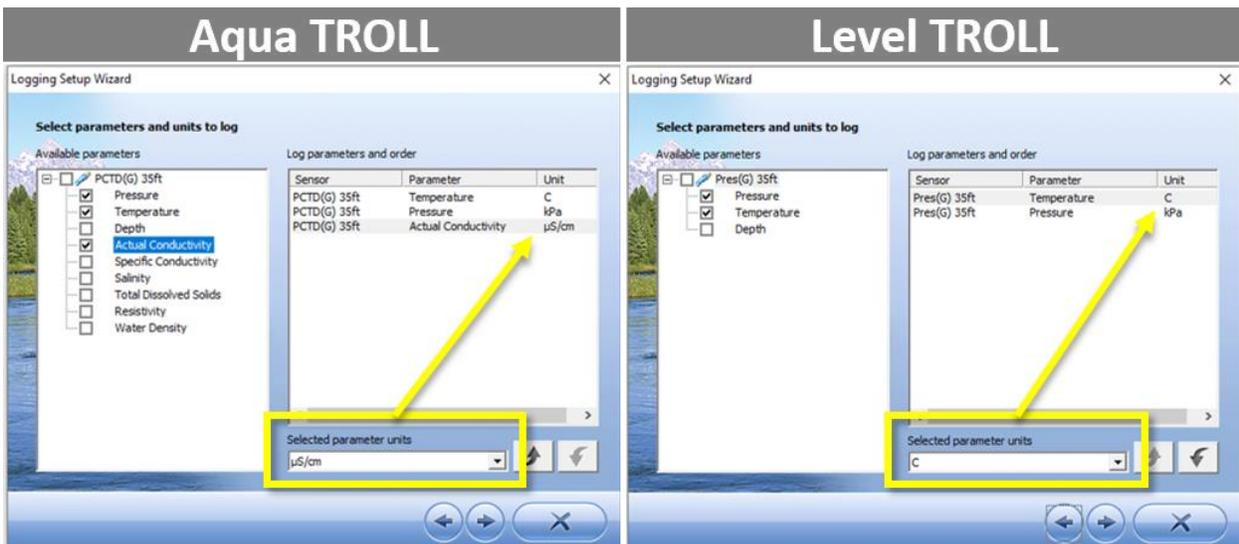

Figure 13. Set the Parameters and Units to log for the Aqua (Left) or Level TROLL (Right)
- Set the parameters and units to log for the Aqua or Level Troll referencing the information in **Table 3** and **Table 4**. Each parameter you select requires a unit selection. After selecting parameters, select a unit from the dropdown for each parameter under **Log parameters and order** field (Figure 13).